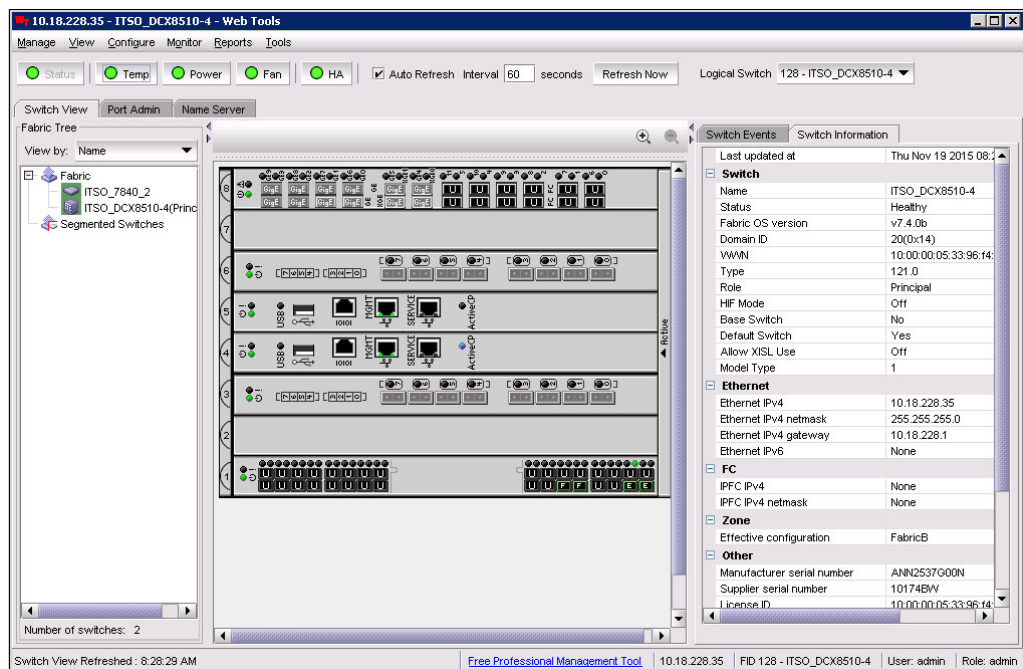

Figure 10-24 Web Tools Hardware window
- a. In IBM Network Advisor, right-click the switch in the product or topology panes of the SAN tab and select **Element Manager** → **Hardware** to display the Hardware window in Web Tools (see Figure 10-24).